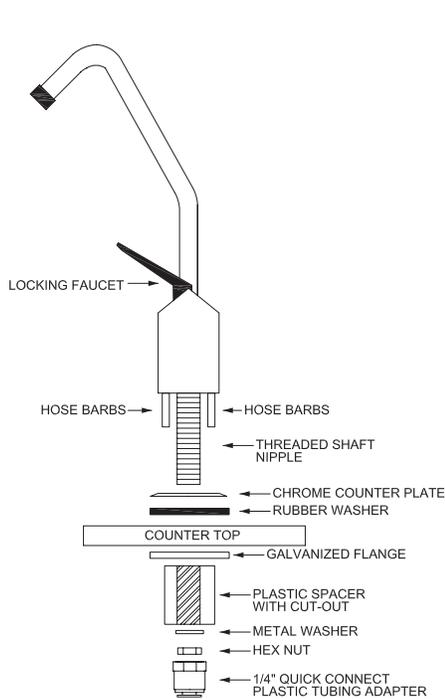

Figure 3
- Place the chrome counter plate and rubber washer over the threaded shaft and barbed nipples on the faucet (Refer to Figure 3).